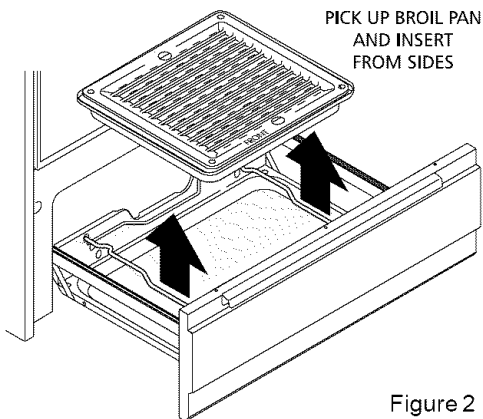

Figure 2
2. Remove broiler pan and insert (Figure 2).
6. Place broiler pan on rack; make sure the broiler pan and insert is positioned as shown (Figure 2). Be sure front of pan is positioned correctly in rack.